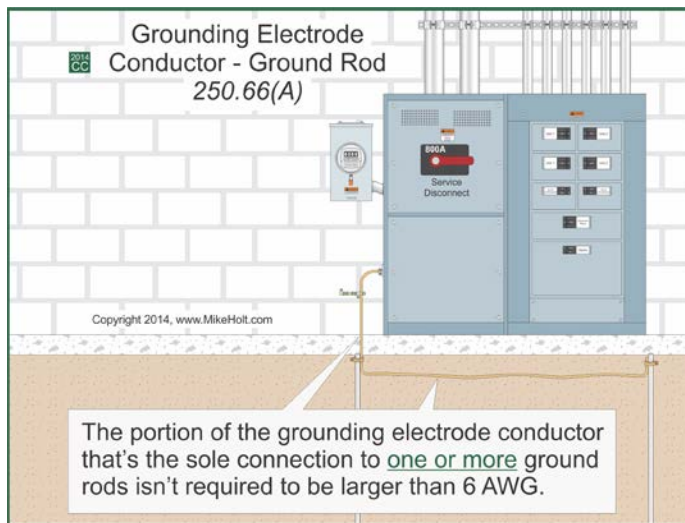

Figure 250-60
- If the grounding electrode conductor is connected to a rod(s), the portion of the conductor that's the sole connection to the rod(s) isn't required to be larger than 6 AWG copper [250.66(A)]. **Figure 250-60**